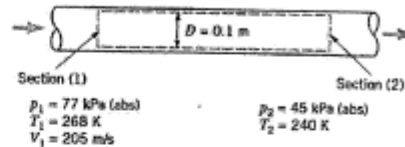

FIGURE P5.10
5.10 Air flows steadily between two cross sections in a long, straight section of 0.1-m inside diameter pipe. The static temperature and pressure at each section are indicated in Fig. P5.10. If the average air velocity at section (1) is 205 m/s, determine the average air velocity at section (2).